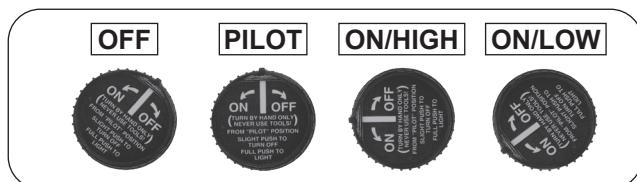

Fig. 23-1 Gas control knob positions
2. Locate the valve on the unit. Push in the gas control knob slightly and turn clockwise to **OFF** (Fig. 23-1).
4. Push in the control knob slightly and turn counterclockwise to the **PILOT** position. Push the knob **firmly and fully** in and hold. Push the piezo igniter button several times until the pilot lights. Continue to hold the knob in for about one (1) minute after the pilot is lit. Release the knob and it will pop back out. The pilot will remain lit. See Fig. 23-1 and 23-2. If it goes out, repeat steps 2-4.
1. Ensure the pilot is burning. Push in the control knob slightly and turn counterclockwise to the **ON/HIGH** position (first stop past PILOT). See Fig. 23-1. The valve will open and the burner will light at maximum BTUs.
To shut down the main burner (pilot will remain lit), push in the control knob slightly and turn clockwise to the **PILOT** position (see Fig. 23-1).
To shut down the burner and pilot (total shutdown), push in the control knob slightly and turn clockwise to the **OFF** position (see Fig. 23-1).